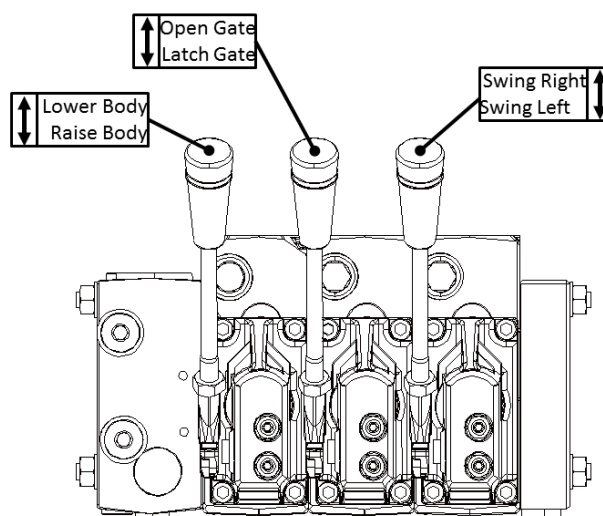

Figure 2.4.1 - Manual Operation of PVG Valves
2. The PVG Valves are located behind the cab of the truck. Move the PVG Valve lever in the direction of "RAISE BODY" to raise the body. Releasing the lever from this position at any time will stop the body from moving. See Figure 2.4.1.
4. The tailgate may be operated at any time by moving the specified lever in the "OPEN GATE" indicated direction until fully opened. See Figure 2.4.1.
2. The PVG Valves are located on the exterior of truck. Move the lever on PVG Valves labeled in the direction of "SWING RIGHT" or "SWING LEFT" to rotate the back of the body in the intended direction. Releasing the lever from this position at any time will stop the body from swinging. See Figure 2.4.1.